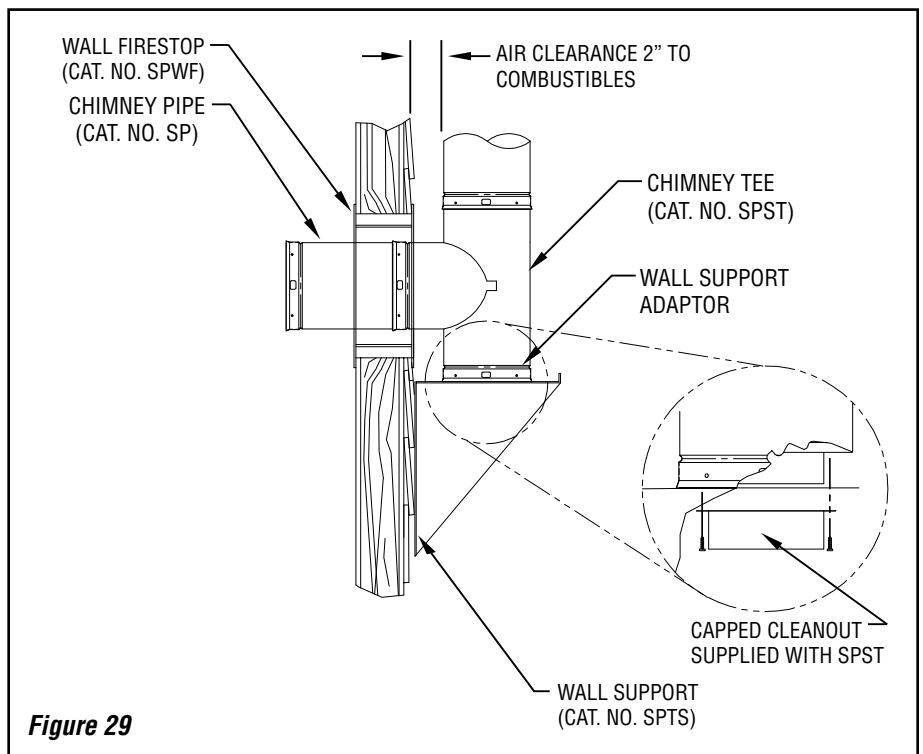

Figure 29
3. A 2-piece wall firestop (SPWF) must be installed in the framed opening from outside. The stainless portion is first installed from the outside of the opening. Push the remaining half through the opening from the inside until the plate is flush with stud. Use four (4) # 10 x 2-1/2" wood screws to attach opening (see **Figure 29**). Seal the outside plate with RTV sealant or similar.